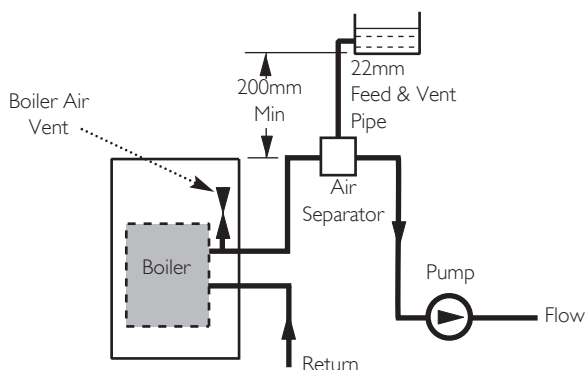

Fig. 12
2. For heads below 400mm then an alternative utilising a combined vent and feed pipe may be connected (Fig. 12). This must be a minimum of 22mm diameter. It is recommended that an air separator is fitted when using a combined feed and vent pipe.